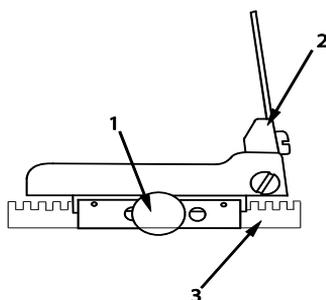

Figure 10. Leaf Sight-Assembly.
4. Turn torque limiting knob (Figure 10, Item 1) on leaf sight (Figure 10, Item 2) counter-clockwise until it stops.
5. Align leaf sight (Figure 10, Item 2) on rail (Figure 10, Item 3) appropriately.
6. Sit leaf sight (Figure 10, Item 2) on rail (Figure 10, Item 3) so it is flush with rail then turn torque limiting knob (Figure 10, Item 1) until it clicks twice.